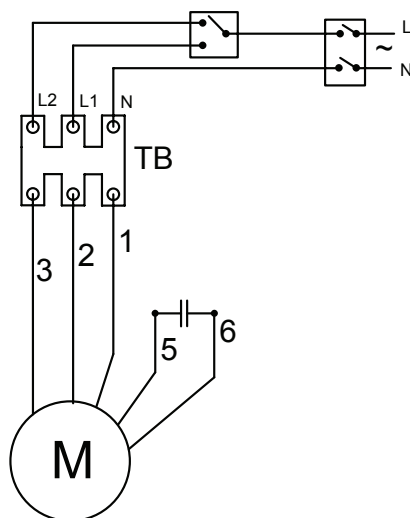

Fig. 4A
- Make sure that the voltage (V) and frequency (Hz) of the power supply correspond to the values indicated on the name-plate.
- To complete the electrical connection, follow the wiring diagram (see fig. 4A, 4B, 4C).
- Perforate the flex holder (O) to allow the power supply wires to pass through.
- If you wish to install a commutator that lets you choose between high speed (S3), medium speed (S2) (only in the DV-PP-200-910 model) and slow speed (S1), see fig. 4A - 4B.